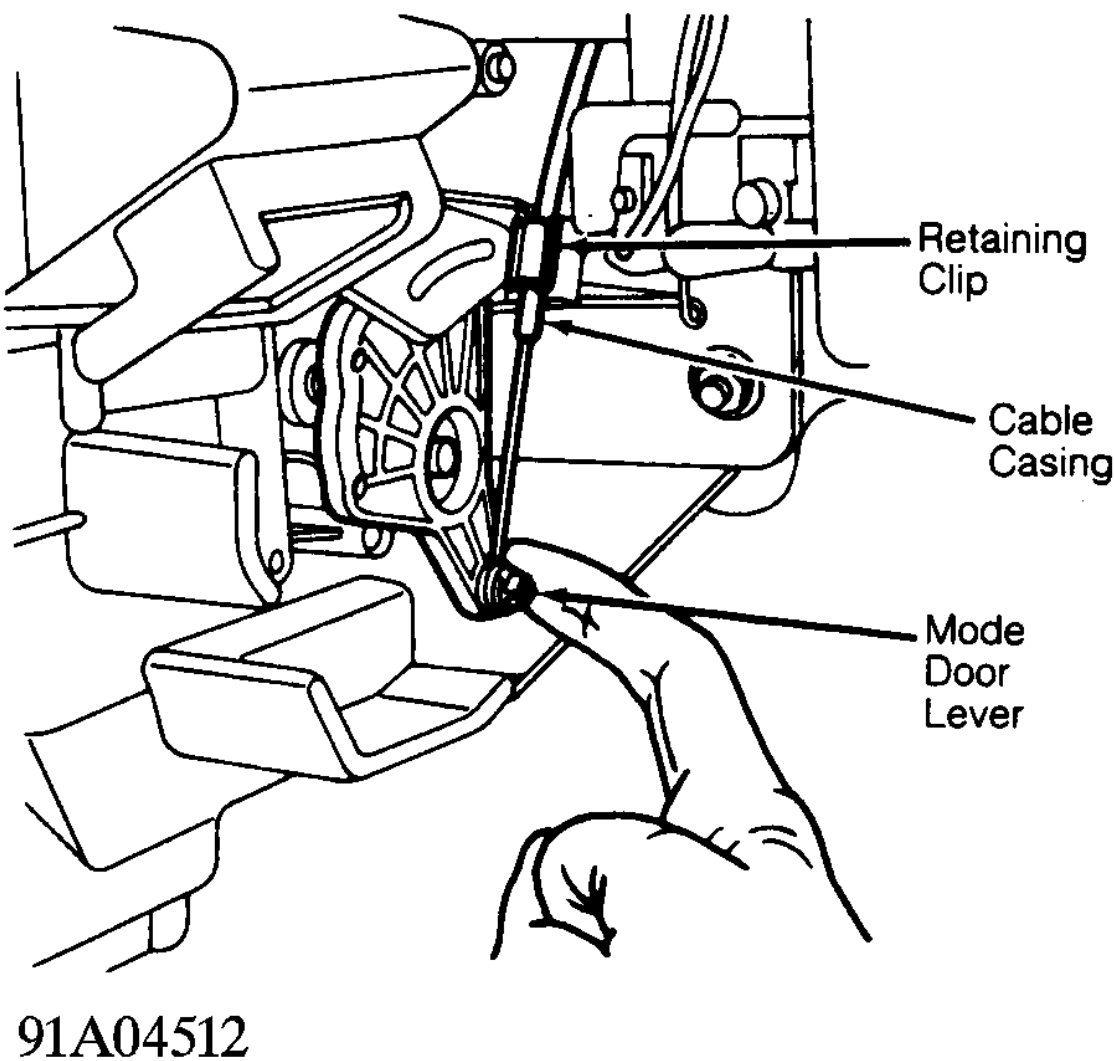

Fig. 6: Adjusting Mode Select Cable
1. Remove air distribution plenum and instrument panel brace. See **AIR DISTRIBUTION PLENUM** under REMOVAL & INSTALLATION. Release cable retaining clip. See **Fig. 6** .